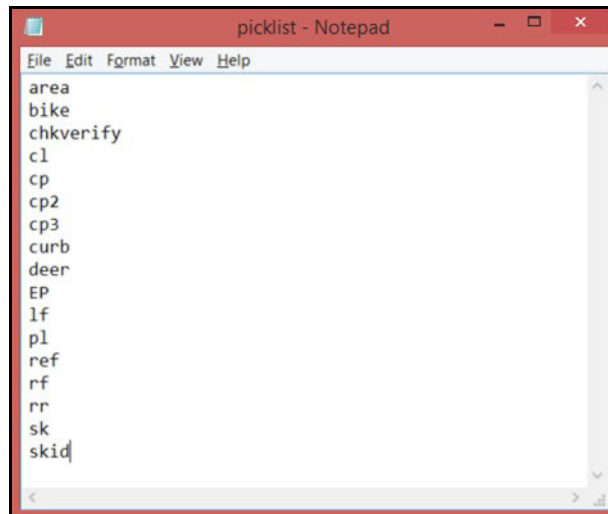

Figure 80
- Use a program such as Microsoft Notepad to create the text file (Figure 80). Notepad is typically found by clicking on the Windows icon to access All Programs > Accessories on PCs running Windows Vista, Windows 7, Windows 8 or Windows 10.